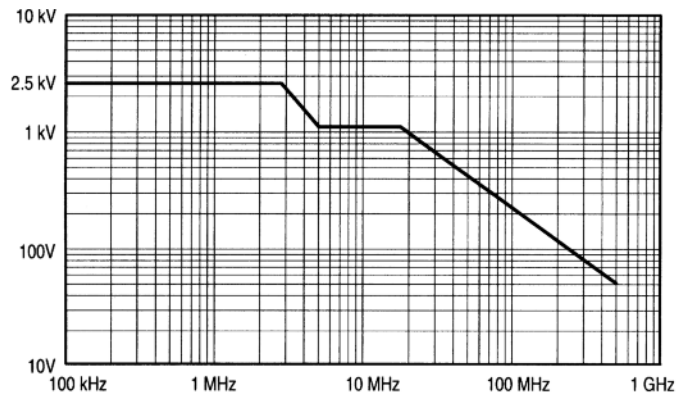

Figure 7.1. Example Derating Curve. Actual values and ranges will vary with specific products.
- To avoid RF (radio frequency) burns, do not handle the probe leads when the leads are connected to a source that's above the voltage and frequency limits specified for RF burn risk (see Example derating curve, Figure 7.1).